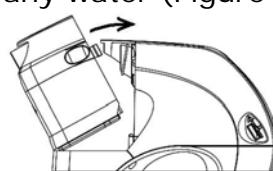

Figure 12 – Replacing the water chamber
4. Attach the water chamber base to the heating element and tip it forward to lock it in place, being careful not to spill any water (Figure 12).